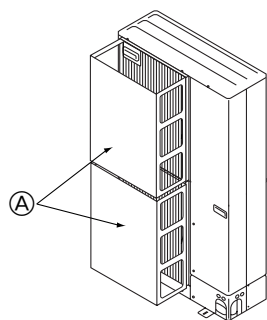

Fig. 2-15
- ① Install an optional air guide if the unit is installed in a location where strong winds from a typhoon, etc. may directly enter the air outlet. (Fig. 2-15)